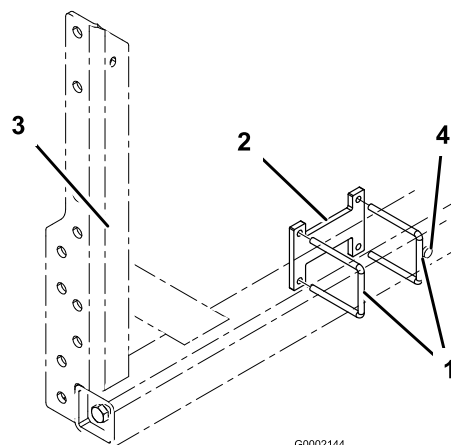

Figure 2
1. Install 2 U-bolts, and a spacer to the boom frame as shown in Figure 2. Position the assembly forward on